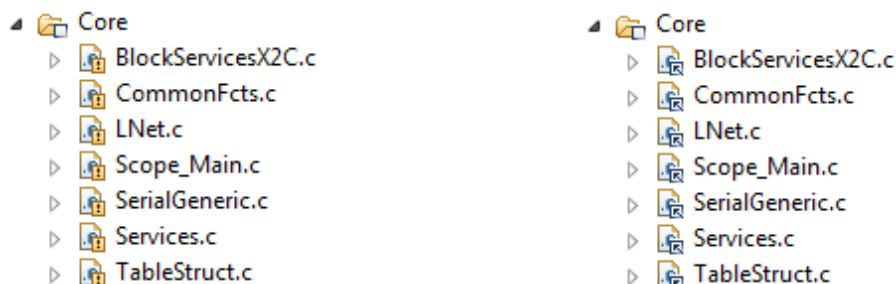

Figure 15: *Code Composer Studio* invalid (left) and valid (right) X2C root directory
3. In the *Code Composer Studio* file structure of the *Blinky* demo project there are two virtual folders *Blocks* and *Core*, which should be linked directly to the X2C directory. To ensure this go to **Project** → **Properties** drop down **Resource** and click **Linked Resources**. Double click on folder **X2C_ROOT** and set the correct link to your X2C installation directory (<X2C_ROOT>). After hitting **OK** two times there should not be any warning signs (like shown in Figure 15) at the icons for the linked files in the *Blocks* and *Core* folders.